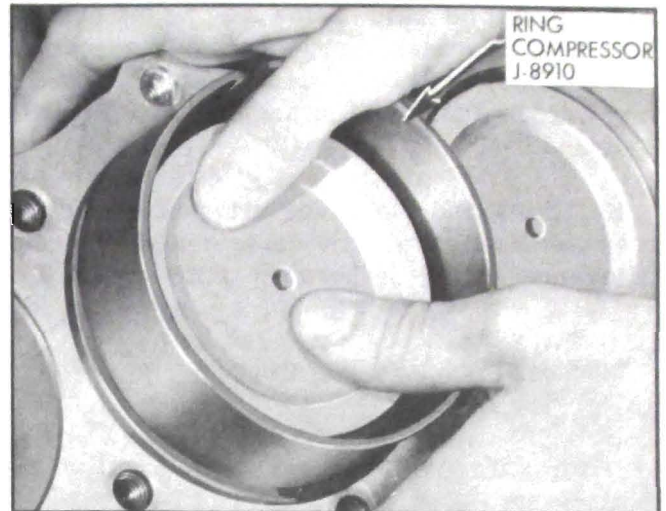

Figure 2-52 Installing Piston With Ring Compressor
15. Lubricate the piston and rings and install in bore by compressing the rings either with a "wrap around" compressor or a split ring type such as J-8910 shown in Figure 2-52.